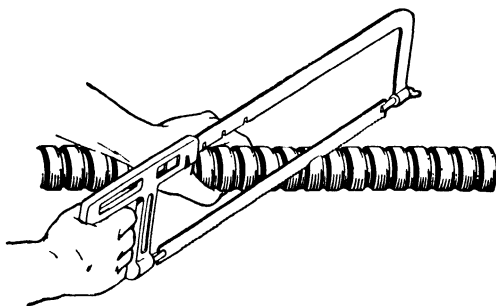

Fig. 20. Cutting Armored Cable
**Cutting Cable.** Armored cable is cut with a hacksaw, regardless of size. After it is cut, saw through one of the convolutions of the armor, about 6 inches back from the end, Fig. 20, or as much farther